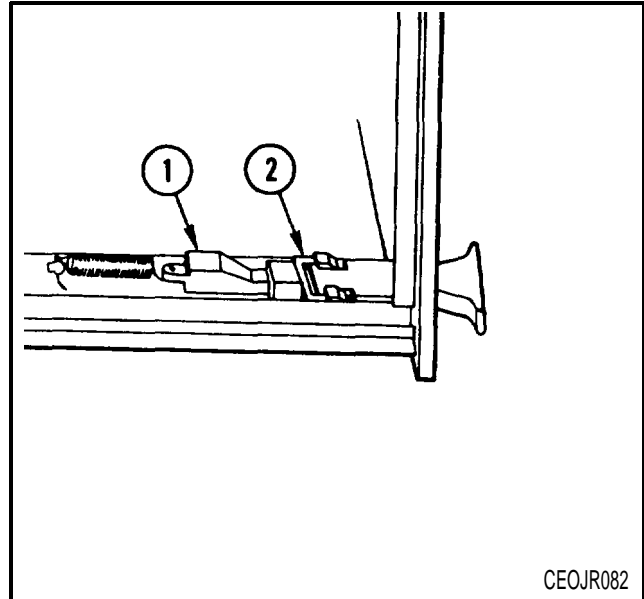

Fig. 5-7. Latch assembly pictorial.
- b. Remove shield ground screw (1) on bottom.
- c. Remove the latch assembly using the following procedure. Refer to Fig. 5-7.